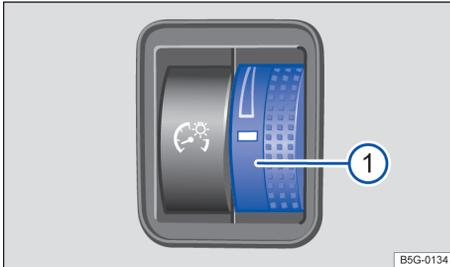

Fig. 79 To the left of the steering wheel: Thumbwheel to adjust instrument panel lighting ①.
You can adjust the brightness of the instrument cluster and switch lighting by turning the thumbwheel → fig. 79 ①.